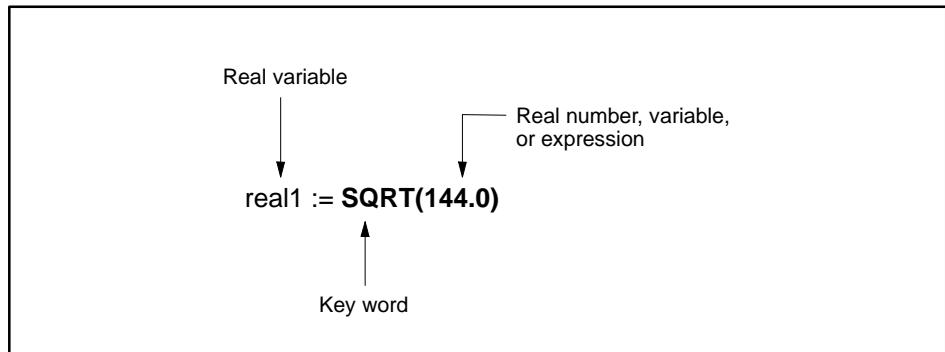

Figure 11-50 SQRT Function
- The returned value is also a real number. For example, in Figure 11-50, the value of the variable, **real1**, is 12.0.